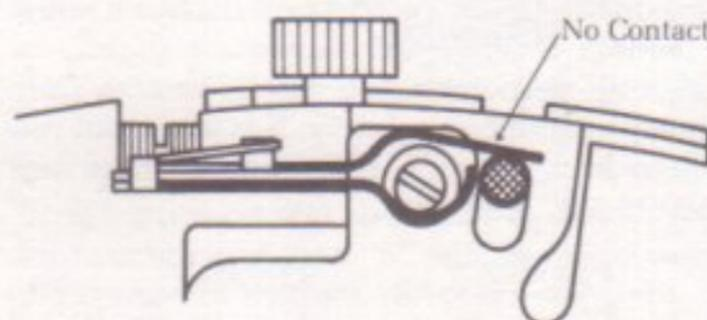

Fig. 28
2. **Stem In (Running Position):** There must be clearance between switch spring and switch strap. This clearance should be at least the thickness of the switch strap. (Fig. 28).